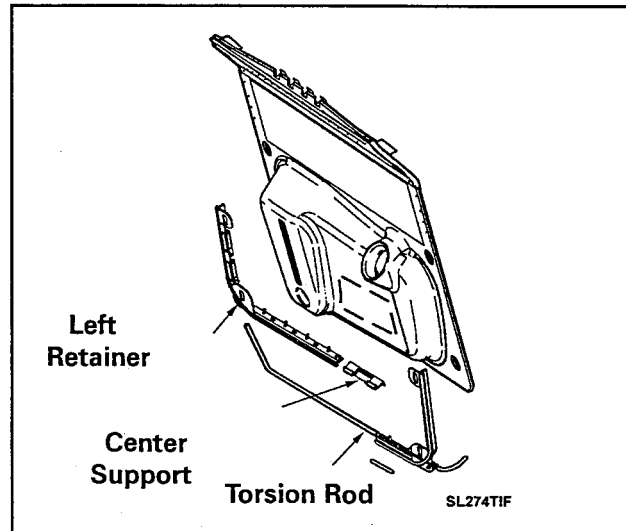

Figure 4-15
3. Slide the left retainer toward the center of the lid and remove from behind the lid flange (*Figure 4-15*).